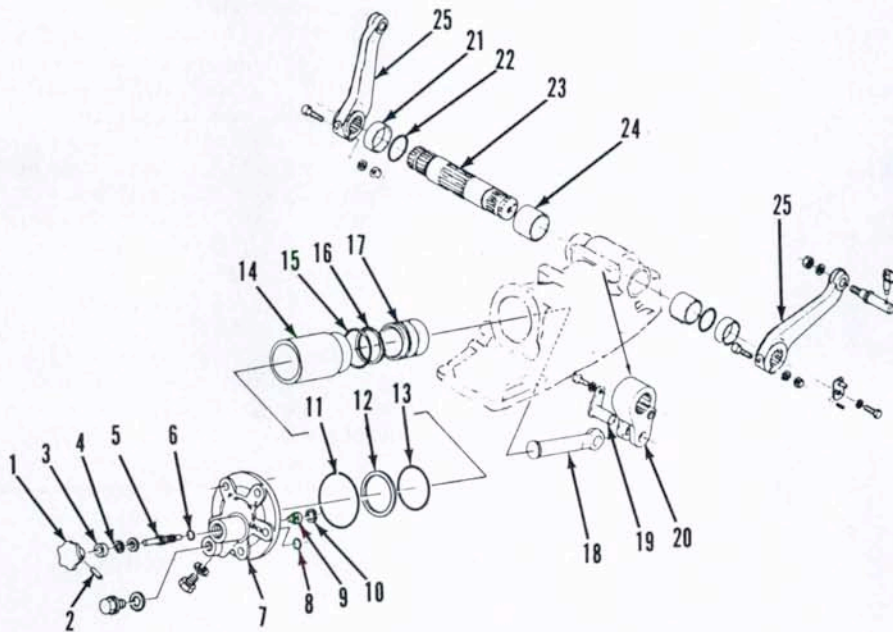
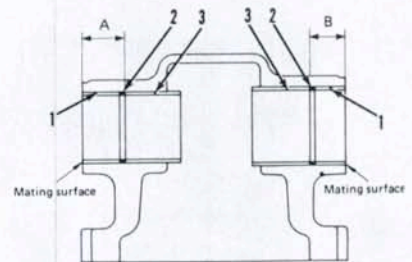

Fig. 172—Exploded view of rockshaft assembly and lift cylinder assembly used on all models.
Fig. 174—When renewing rockshaft bushings, press bushings into housing bores to dimension "A" on right side and dimension "B" on left side.
128. OVERHAUL. To remove hydraulic cylinder head (7 - Fig. 172), cylinder liner (14) or piston (17), first remove cylinder head mounting cap screws. Apply down pressure to lift arms to force off cylinder head. Cylinder liner and piston may come out with cylinder head. If they do not come out, hand push piston and liner out of housing.
Remove retaining pin (19—Fig. 172), piston rod (18) and lift arms (25). Bump rockshaft (23) out right side of housing. Spacers (21), "O" rings (22) and bushings (24) can be removed at this time.
Inspect cylinder liner and piston for excessive wear, scoring or other damage. Renew cylinder liner if wear exceeds 0.15 mm (0.006 inch). Clearance between rockshaft and bushings should not exceed 0.5 mm (0.020 inch). Press new bushings (3—Fig. 174) into housing until 30.5-31.5 mm (1.20-1.24 inches) below outer surface (A) on right side and 26.5-27.5 mm (1.05-1.08 inches) below outer surface (B) on left side. Clearance between piston rod (18—Fig. 172) and pin (19) should not exceed 0.4 mm (0.016 inch).